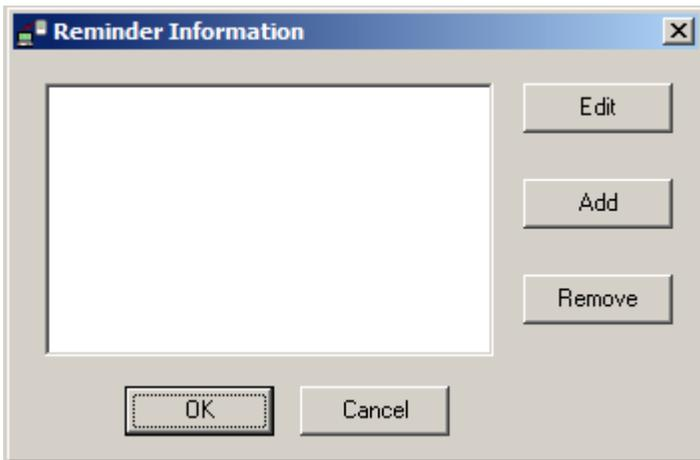

Figure 32
- All queued messages will be listed in the white box, **Figure 32**.